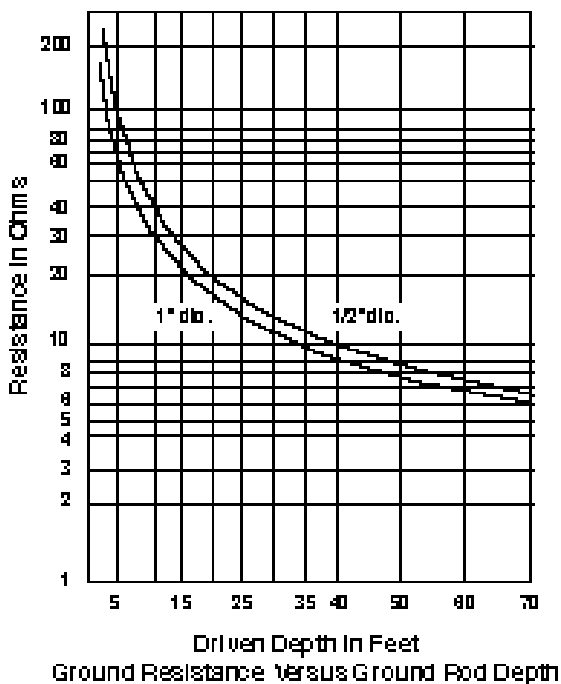

Fig. 13
Depth: As a ground rod is driven deeper into the earth, its resistance is substantially reduced. In general, doubling the rod length reduces the resistance by an additional 40% (Figure 13). The NEC 2005 250.52 (A)(5) requires a minimum of 8 ft (2.4 m) to be in contact with the soil. The most common is a 10-ft (3 m) cylindrical rod which meets the NEC code. A minimum diameter of 5/8" (1.59 cm) is required for steel rods and 1/2" (1.27 cm) for copper or copper clad steel rods NEC 2005 250.52(A)(5)(a)(b). Minimum practical diameter for driving limitations for 10 ft (3 m) rods are: